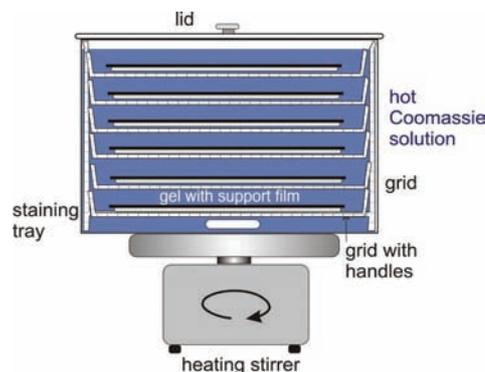

Fig. 8.5: Set-up for hot Coomassie staining.
1. Heat staining solution to 40°C in steel tray (Fig. 8.4) or MultiStainer for multiple gels (Fig. 8.5) with grid while stirring